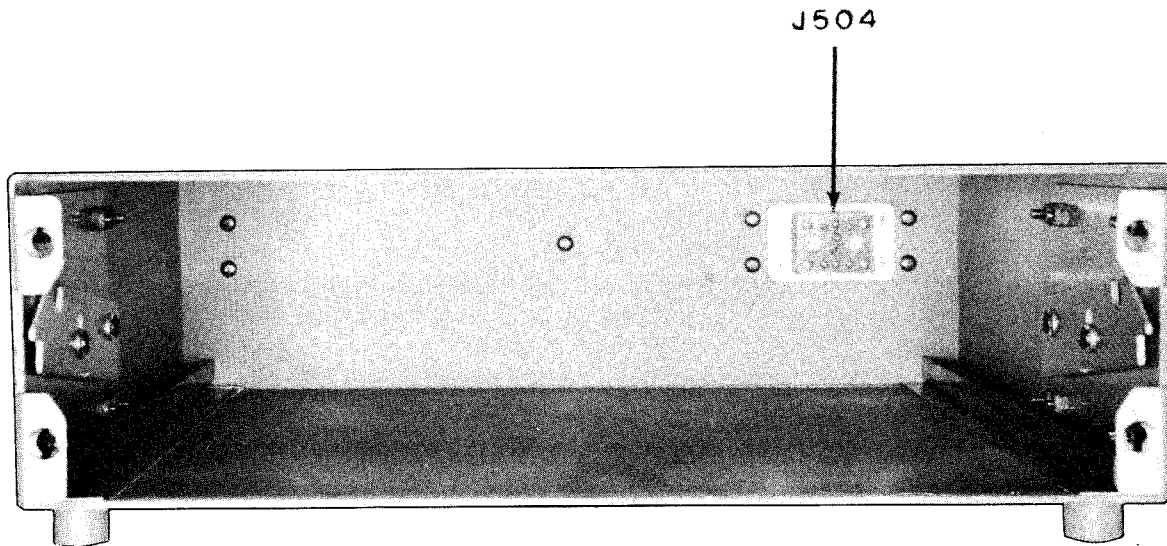

Figure 1-4. View into Cabinet, Inside Case Details
a. CABINET.—Figure 1-4 shows this unit. It is fabricated from aluminum alloy and finished in gray enamel. Guide rails located at the bottom of the cabinet facilitate removal and replacement of the receiver chassis assembly. When installed in a standard relay rack, the four mounting feet are removed and the two angle brackets are attached to the sides of the cabinet. Spring action side latches on each side of the case permit the receiver chassis to be withdrawn to a point where most of the top chassis components are accessible with the chassis still supported. When it is necessary to remove the chassis from the cabinet, the two latch levers are pressed down and the chassis is withdrawn (see figure 5-2). The receptacle connector (J504) which is visible at the right rear of the case interior is so located that, when the receiver chassis is inserted in the cabinet, the receptacle mates with a corresponding connector on the receiver Audio/Power Supply chassis.